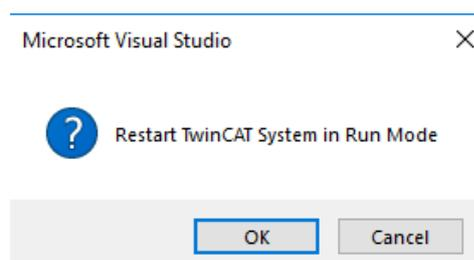

Figure 3.24.
- After clicking OK in the previous window, cancel the request to restart TwinCAT in Run Mode shown in Figure 3.24.